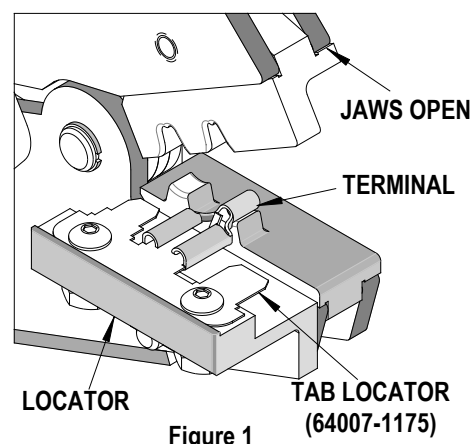

Figure 1
1. There are 3 tab locator blades supplied with the tool. One is for .187 and .250 tabs; another is for .205 tabs and .110 Tabs and another for LIF terminals. Make sure the proper blade is installed on the top of the locator and the others are stored on the bottom of the locator. For proper orientation of the locator blade see Figure 1.